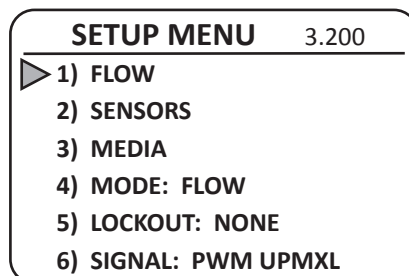

Figure 10: Setup Menu (Item 1)
The Setup Menu page is accessed by pressing and holding the OK button for one second while on the Main page. Item 1) in the Setup Menu changes depending on which mode is selected and will always match the Mode listed in item 4 (Figure 10).